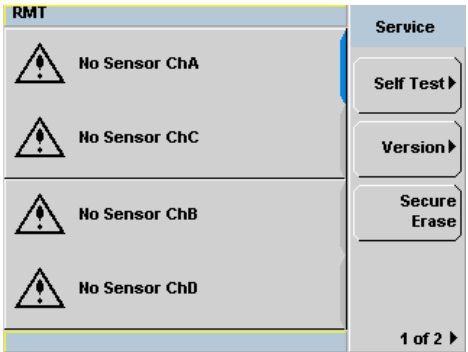

Figure 2-56 Secure Erase
- 1 Press **System**, **1 of 2** and select **Service**. In the **Service** menu, select **Secure Erase** (see Figure 2-56).